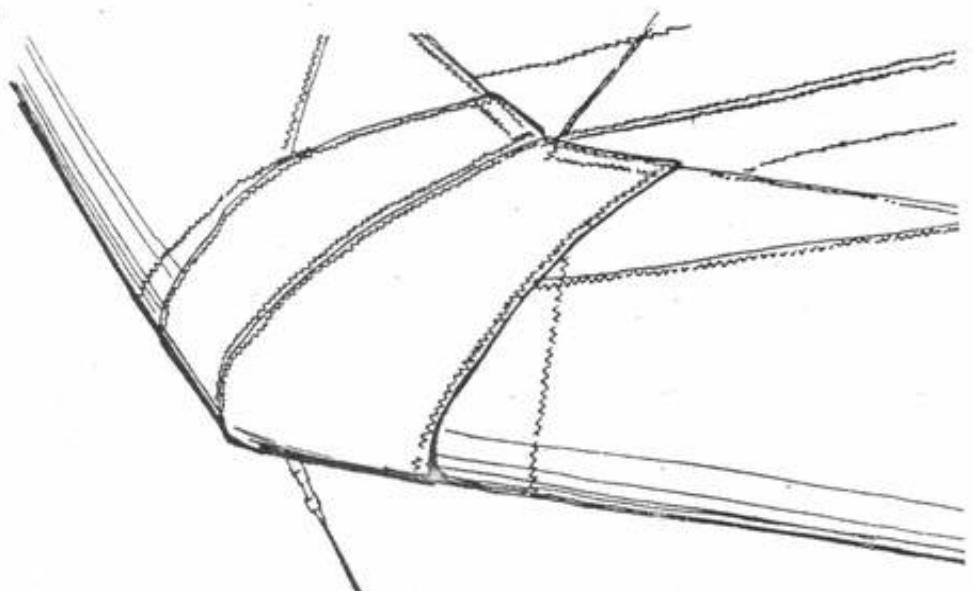

Fig.37
3.13. Fit the nose cone over the front of the keel and attach the velcro at the top rear of the nose cone. Rest the glider back on its tail and pull the bottom corners of the nose cone back until the nose cone is tight around the nose and secure the velcro on the bottom of the nose cone (Fig.37, 38).